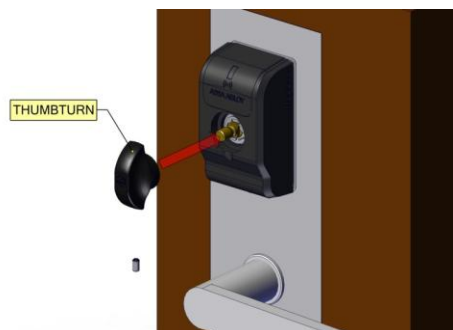
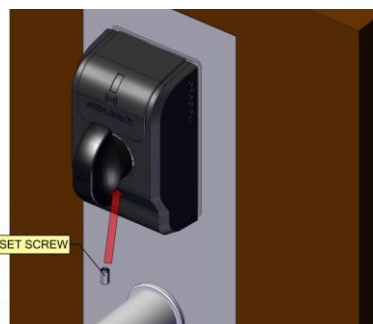
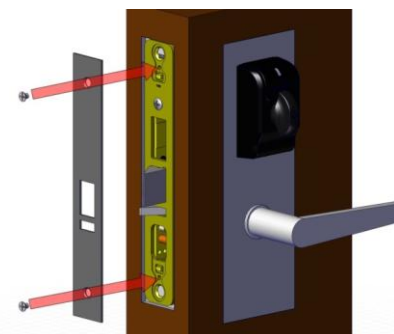

Fig. 18
Fig. 19
Fig. 20
**Step 8:** Install thumbturn (Fig. 18), set screw (Fig. 19), and re-install door edge trim (Fig. 20).